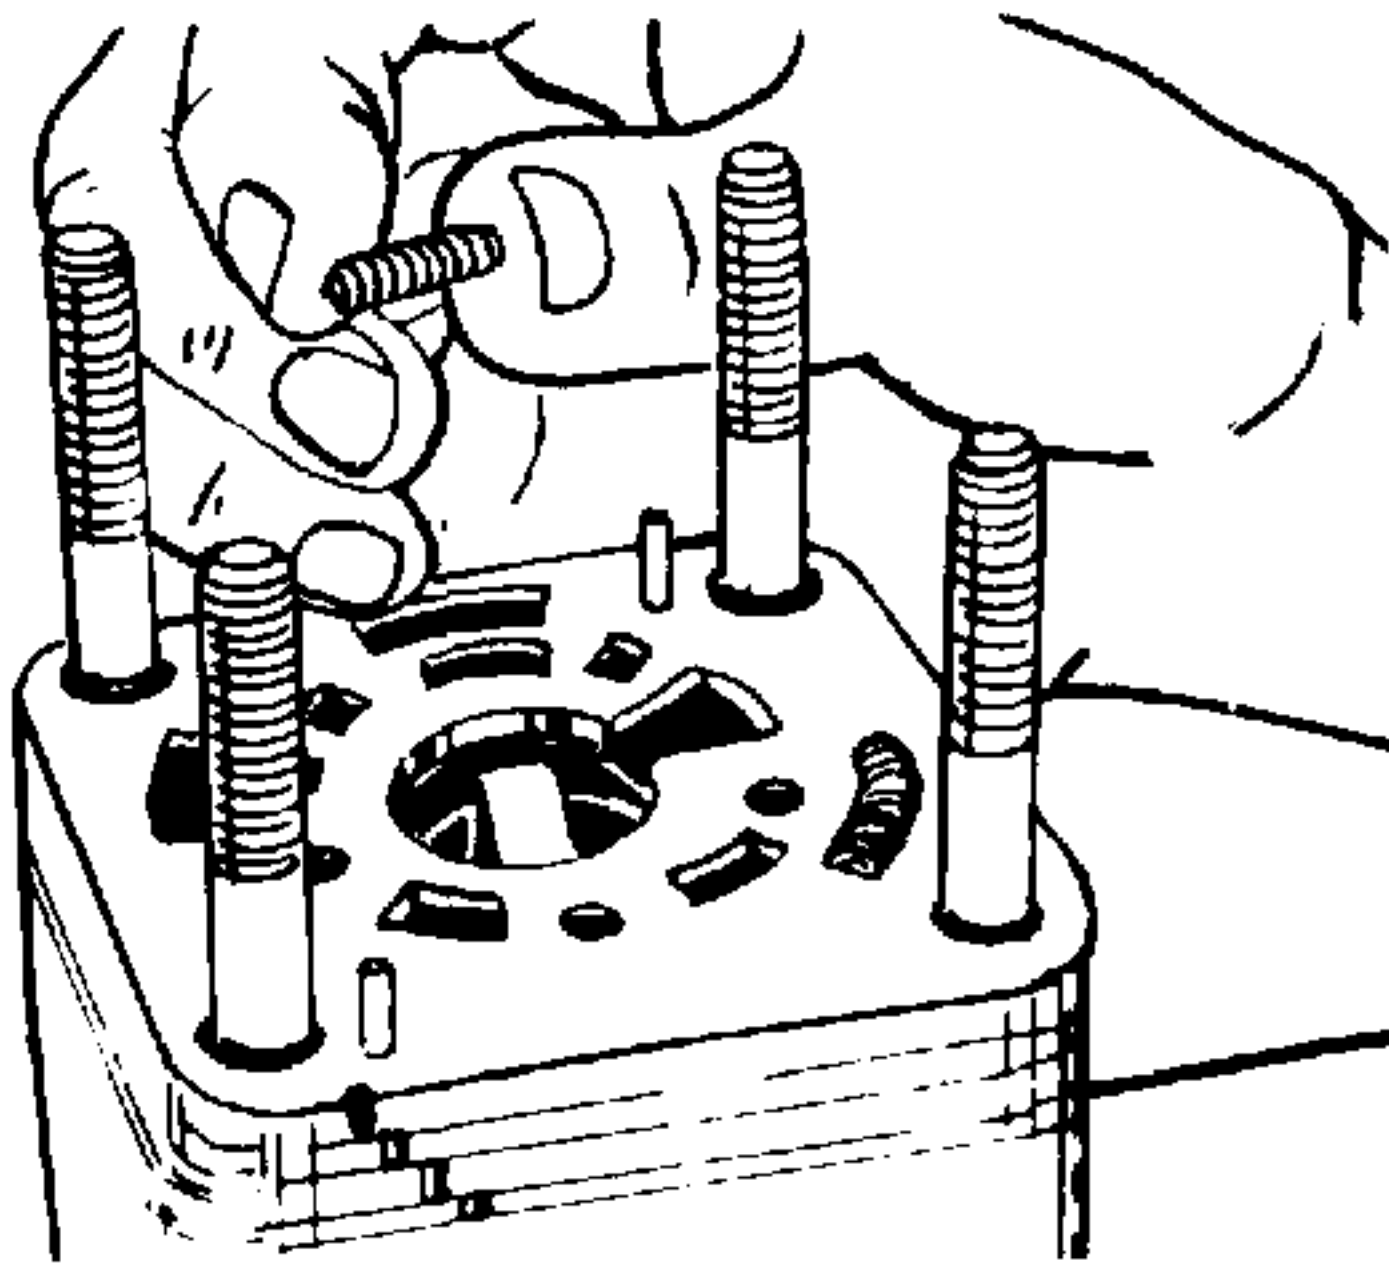

Figure 4-79. Installing 1/2-Inch Springs.
31. Place the three 1/2-inch (13 mm) springs (8, Figure 4-1) into the spring pockets of the isolation manifold (13). See Figure 4-79.